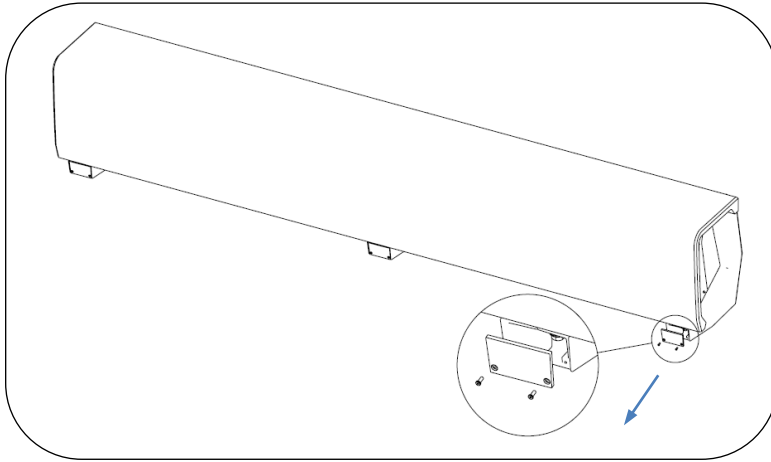

Fig. 13
15. Remove end cap from each support, see Fig. 13.